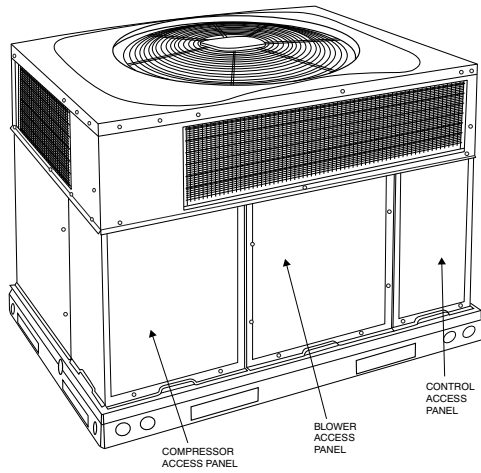

Fig. 22 – Unit Access Panels
- a. Remove blower access panel (see Fig. 22).
- g. Reinstall blower access panel (see Fig. 22).
1. Remove control access panel (See Fig. 22).
Remove blower access panel (see Fig. 22). Limit switch is located on the fan partition.
3. Remove control access panel (See Fig. 22).
Remove access panels (see Fig. 22) to locate all the electrical controls and wiring. Check all electrical connections for tightness. Tighten all screw connections. If any smoky or burned connections are noticed, disassemble the connection, clean all the parts, re-strip the wire end and reassemble the connection properly and securely.